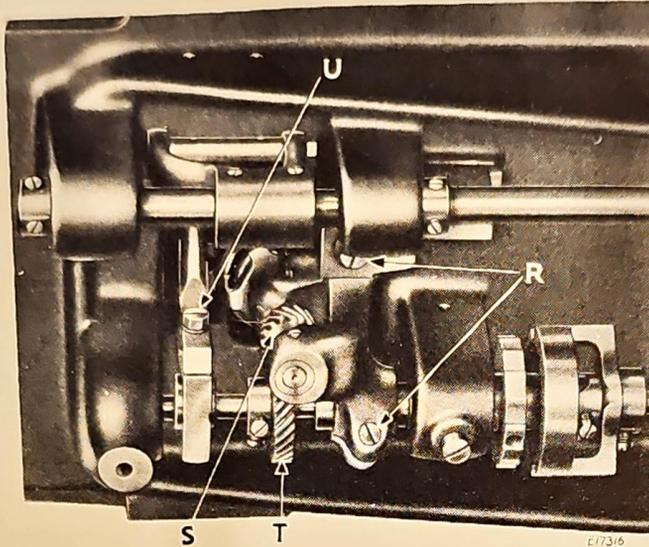

Fig. 20. Adjustment of Hook Saddle
Loosen the two screws in the hub of the hook driving gear (T, Fig. 20) and tap this gear to the right or left on the hook driving shaft until the point of the hook is at the center of the needle. Tapping to the right gives an earlier hook timing, and to the left a later hook timing. Securely tighten the two set screws in the gear (T).
Turn the balance wheel over toward you until the point of the sewing hook is at the center of the needle. Loosen the two screws (R, Fig. 20) holding the hook saddle underneath the bed of the machine and move the hook saddle to the right or left, as may be required, until the point of the hook is as close to the needle as possible without striking it, then securely tighten the two screws (R).
Remove the throat plate, feed dog and the bobbin case opener. Loosen the two screws in the hook shaft gear (S, Fig. 20) and lift out the sewing hook.
Remove the throat plate; clean the lint and dust from between the feed points and replace the throat plate; tip the machine back and turn the balance wheel towards you until the feed dog is at its highest position; loosen screw (U, Fig. 20) in the feed lifting cam fork on the feed bar and raise or lower the feed dog, as may be required, and retighten the screw (U).